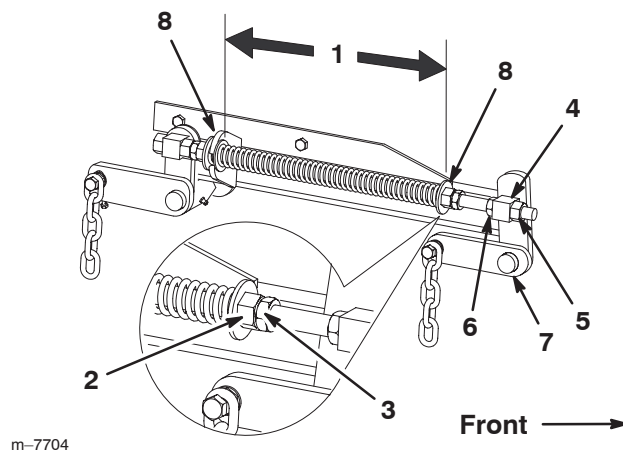

Figure 56
7. Loosen the front swivel jam nuts, at the front of the right and left swivels, approximately 1/2 inch (13 mm) (Fig. 56).
8. Adjust the lift nuts on both the left and the right side of the machine to achieve **1/4 to 3/8 inch (6 to 10 mm) lower in front at A than in the rear at B** (Fig. 56).
1. Raise the mower lift lever to the transport position (Fig. 56).
2. Check the distance between the 2 large washers; it must be 10-1/2 inches (26.7 cm) (Fig. 56).
3. Adjust this distance by loosening the spring jam nut and turning the nut in front of each spring (Fig. 56).
4. Lock the nut into position by tightening the spring jam nut (Fig. 56).